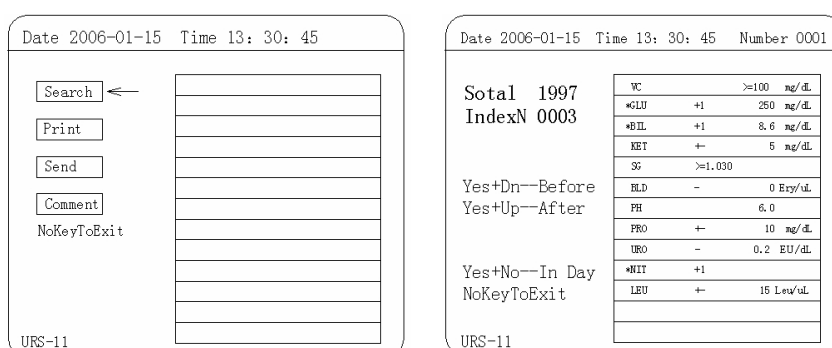

Figure 15
- Press **YES** + **NO** simultaneously and the year in the date (e.g. 2008) flashes. Press **YES**, the month in the date flashes. By pressing **YES** switch between 'Year' 'Month' and 'Day', then press key **△** or **▽** to set the date that is required for search purposes. Press **YES** and the Number for the test data will flash (Figure 15).